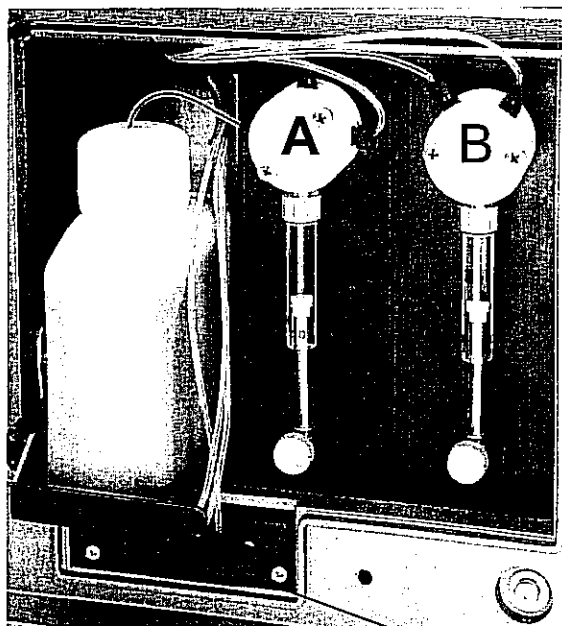

figure 3-1
- Pump A (figure 3-1) feeds two injector needles (for 96- and 384-well plates),
- Pump B (figure 3-1) feeds a second needle at the 96-well position.